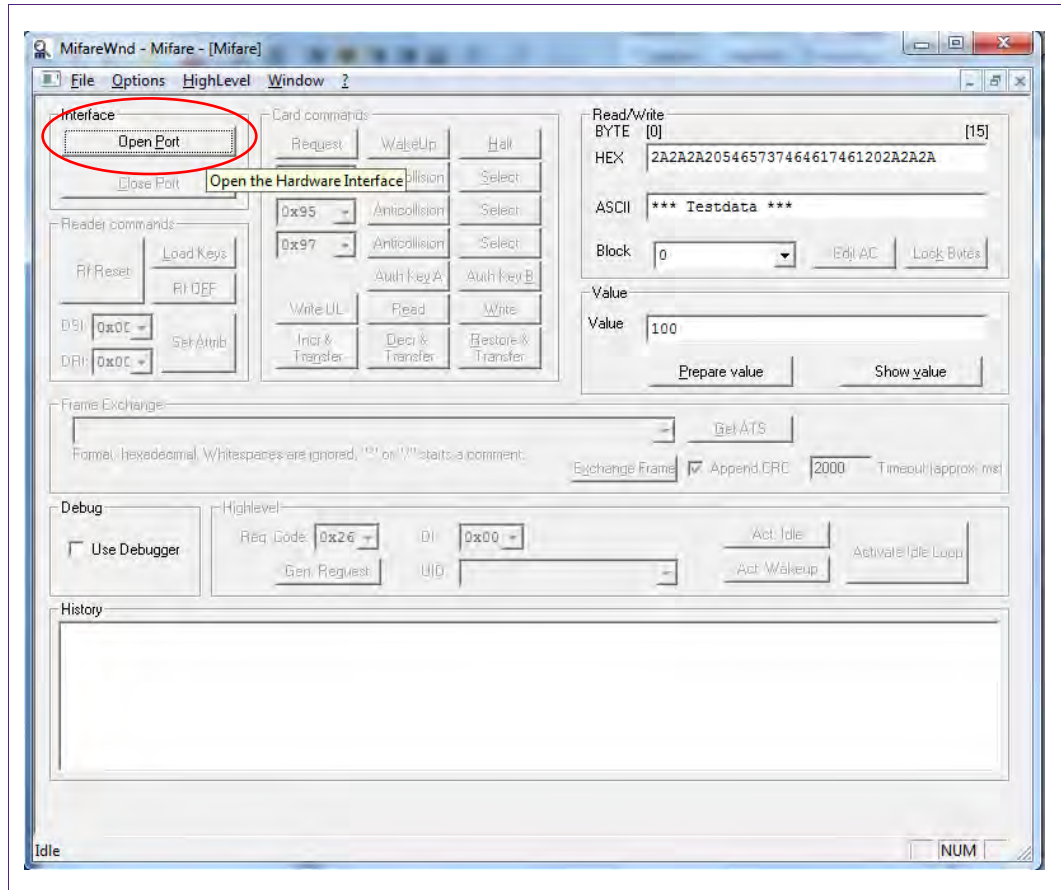

Fig. 6 Open Port
- 3) Connect the MIFAREWnd application to the connected Pegoda Reader by clicking in the button "Open Port" as shown in Fig. 6.